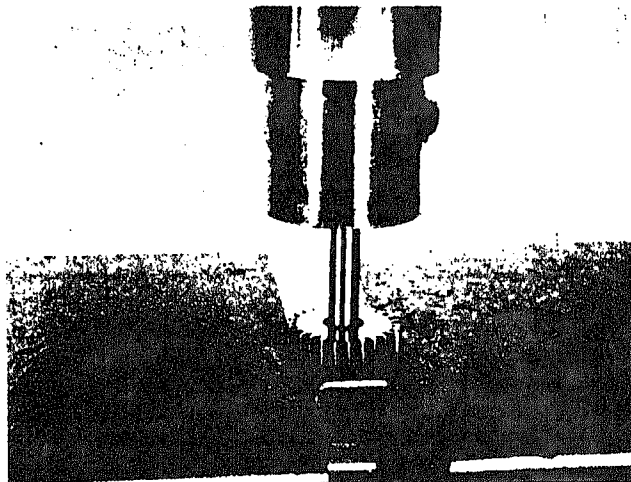

Fig. 506-5 Removing gear from weight carrier
1. If governor gear, shaft, weights or weight carrier are damaged, press gear from shaft. Fig. 506-5.